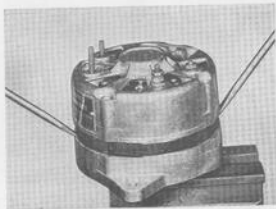

Fig. 3-7. Disassembling alternator
6. Remove the rotor and drive end shield with the help of two screwdrivers, which are inserted in two of the slots between the stator and drive end shield, see Fig. 3-7.